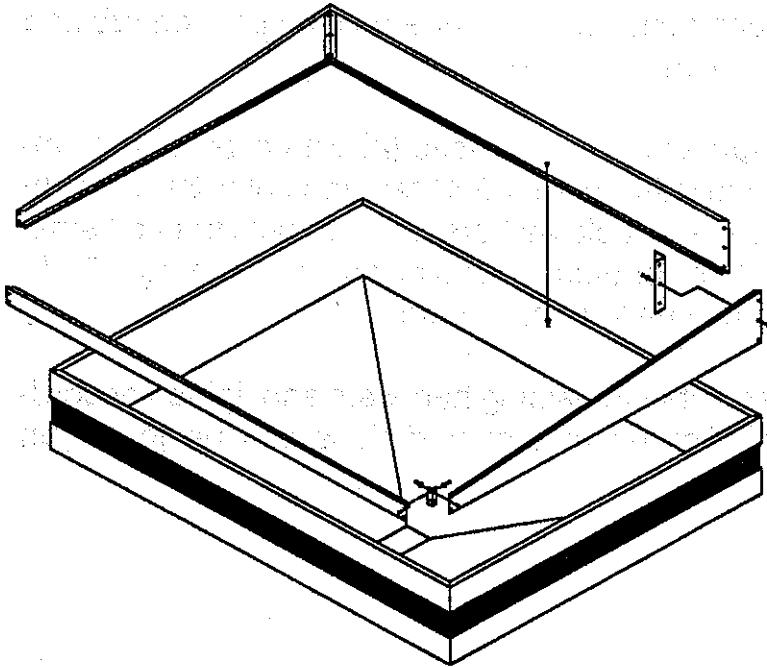

FIGURE 7: EXTENSIONS FOR THE 680 GRAIN CART
1. See Figure 7. Carefully position left hand extension (21" deep) in place on auger side of tub and loosely secure with some of the 5/16" x 3/4" carriage bolts, flat washers, lock washers, and hex nuts from bottom up through tub and extension mounting surfaces. There are 50 each of bolts, flat washers, lock washers, and hex nuts in the hardware packet.